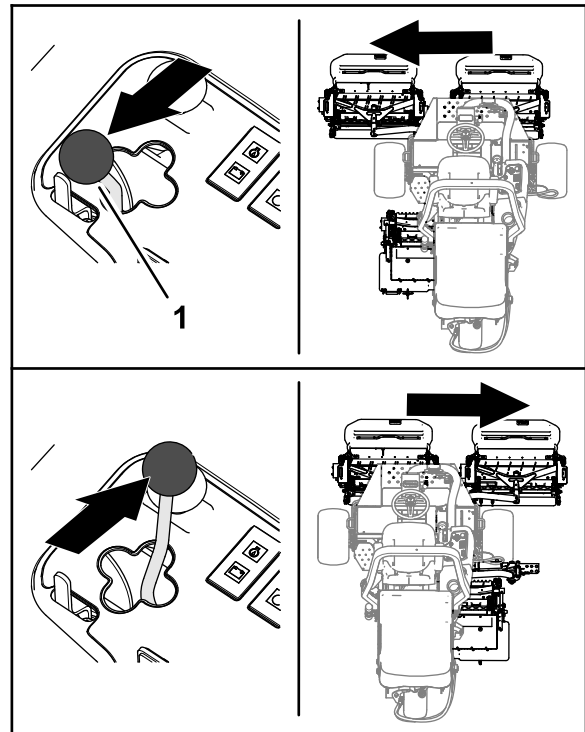

Figure 47
2. Move the cutting-unit shift lever left or right to move the cutting units left or right (Figure 47).